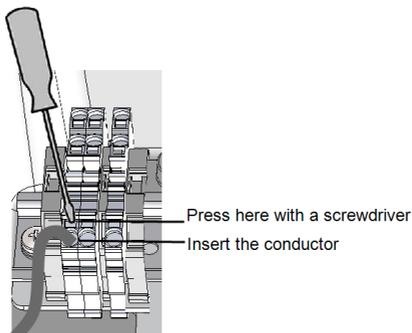

Figure 12: AC Spring-clamp terminal
- a. Use a standard flat-blade screwdriver to connect the wires to the spring-clamp terminals (See *Figure 12*).